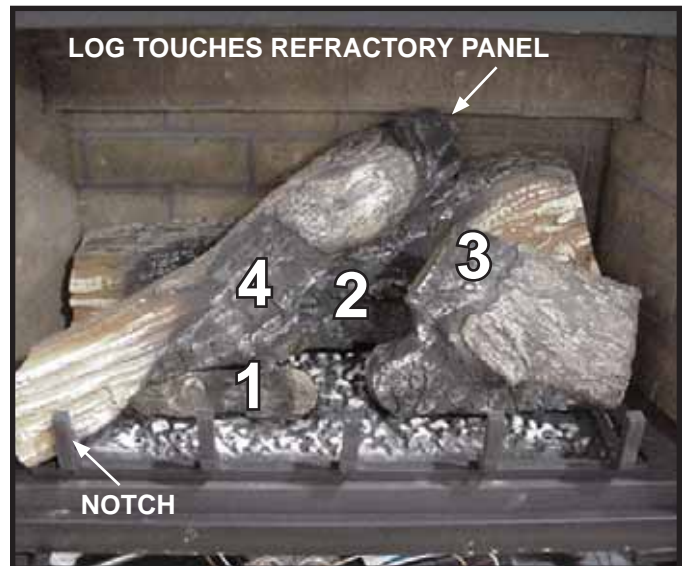

Figure 2.
**LOG #4 (SRV2065-705)** Place log #4 so that the notch is touching the first grate tine and is laying in the flat spot of log #2. The right end of log #4 should touch the back refractory panel. See Figure 2.